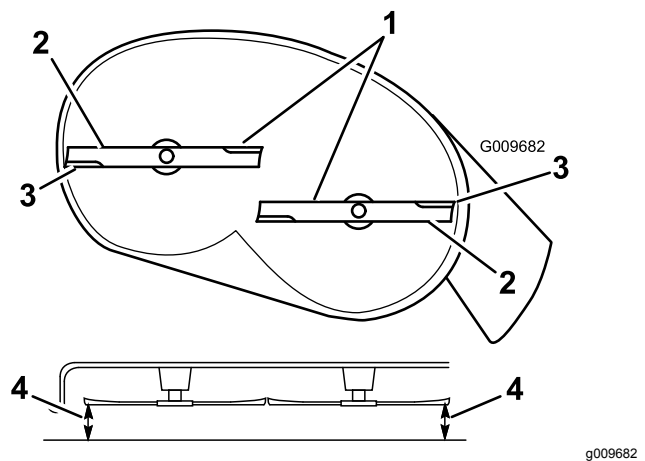
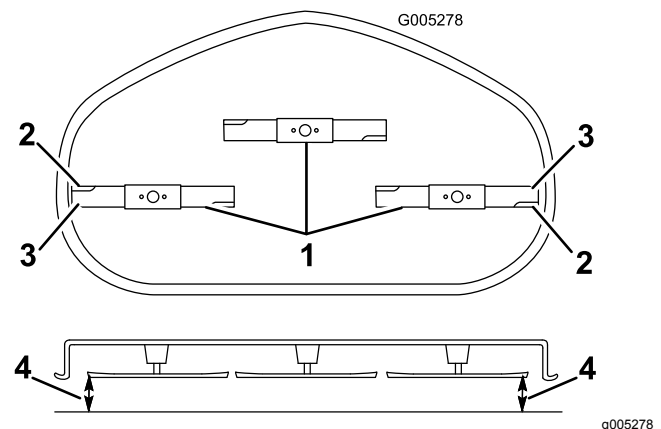

Figure 51
Figure 52
4. Carefully rotate the blades so that they are all side to side (Figure 51 and Figure 52).
5. Measure between the outside cutting edges and the flat surface (Figure 51 and Figure 52).